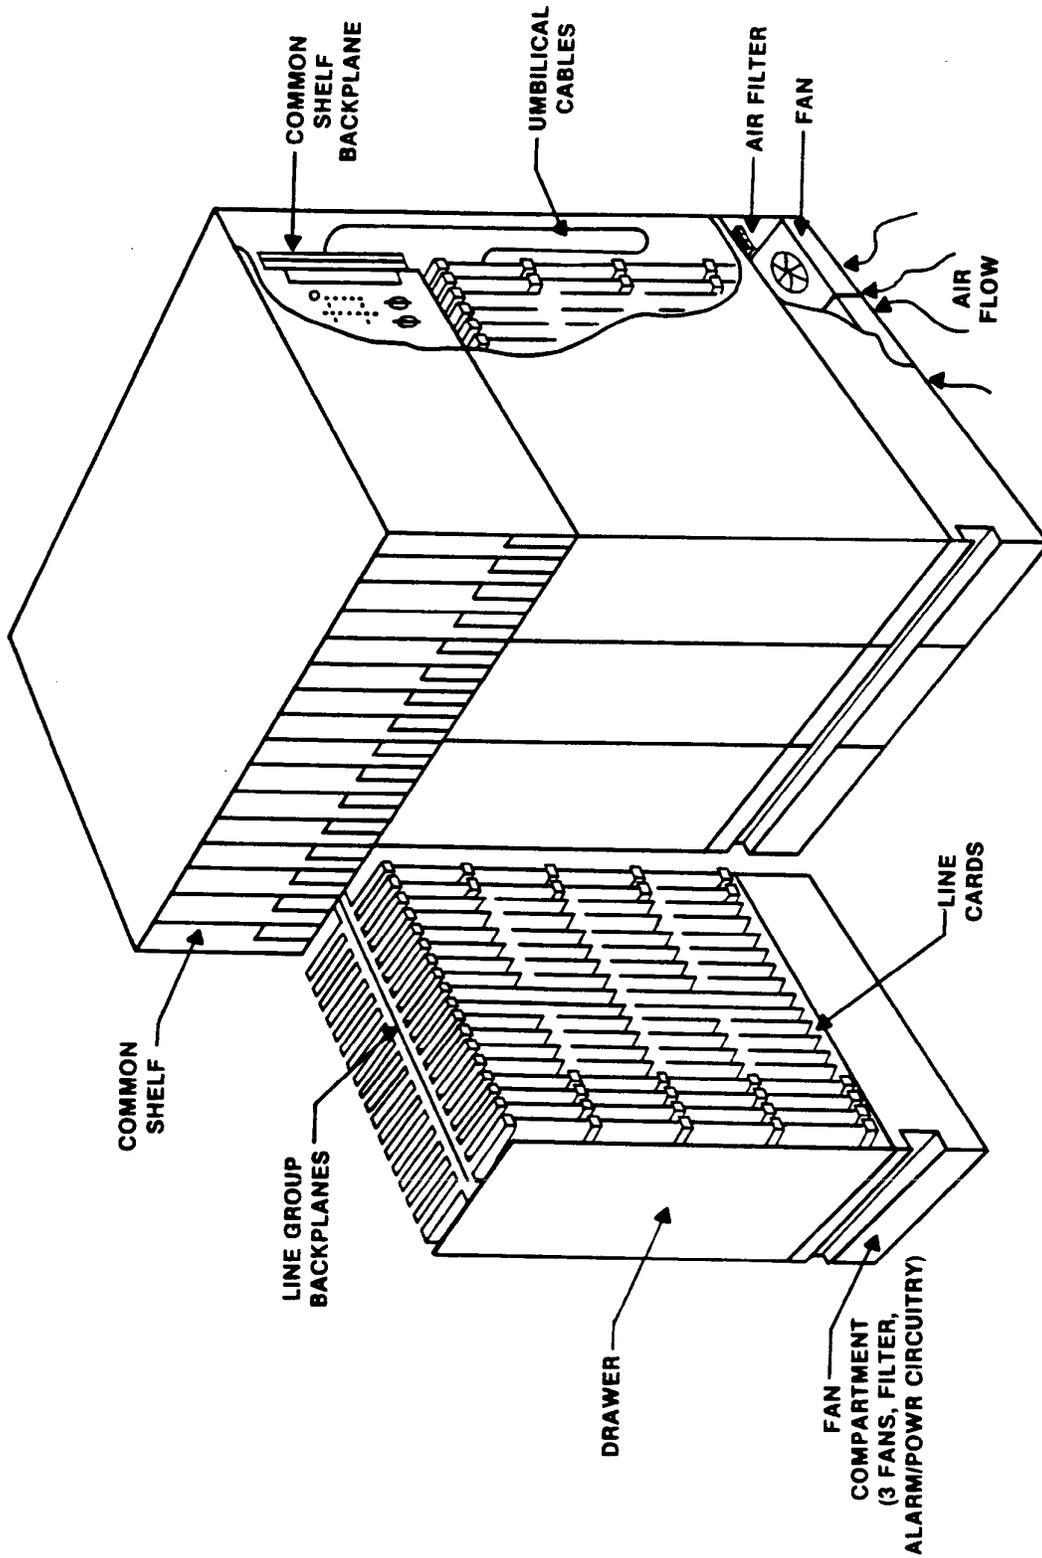

Fig.1. Drawer as Part of Integrated Services Line Unit (ISLU)
1.01 See Fig. 1, an ISLU pictorial that highlights the drawer unit. The LG backplanes are attached to the drawers. Cables from the common shelf feed downward and into the back of each drawer. These cables contain all of the signals and power for the circuits terminated on the LG backplane.